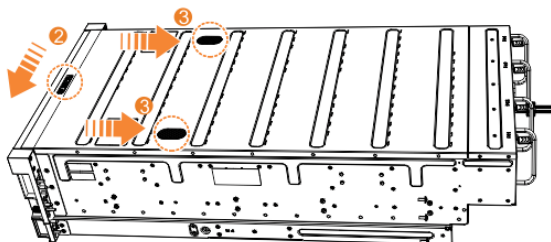

Figure 109. Replacing the top cover
7. Push the cover release lever to the side (2) as shown in Figure 109 on page 151.
8. Slide the cover towards the back of the enclosure (3) back until it stops, as shown in Figure 109 on page 151.